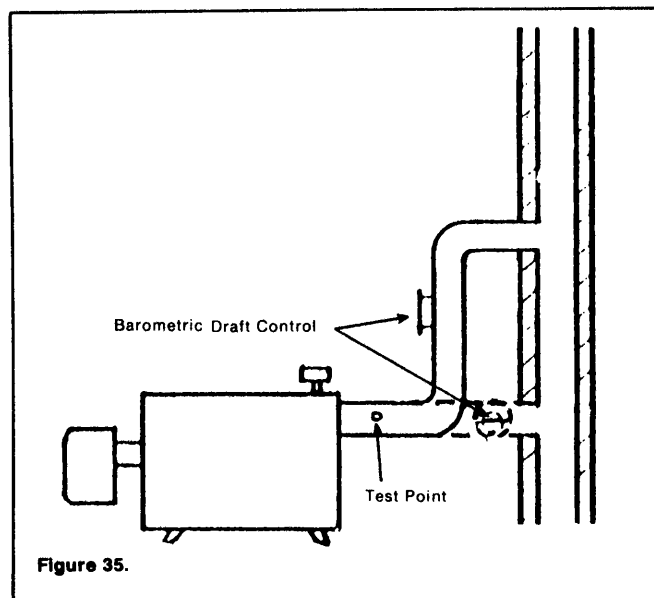

Figure 35.
3. Adjust barometric damper such that there is a negative draft in the range of $-.01$ to $-.02$ at the test point in the breeching (see Figure 35.)
5. Perform a flue gas combustion test with instruments at the test point shown in Figure 35. Final test results should be as shown in the burner Tables on Page 9.